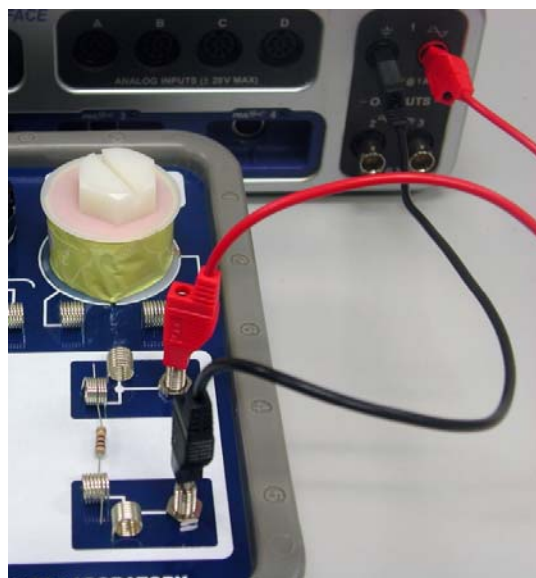

Figure 1: Ammeter Calibration
A resistor generally means a device that obeys Ohm's Law (many devices do not) and has a resistance R . Two (or more) resistors can be connected in series (as in Figure 1), or in parallel (as in Figure 2). Resistors could also be connected in a series/parallel circuit as shown in Figures 3 and 4. An equivalent resistor is a single resistor that could replace a more complex circuit and produce the same total current when the same total voltage is applied. For a series circuit, the resistances are additive:
Locate two $100\ \Omega$ ($\pm 5\%$) (brown-black-brown-gold) resistors, two $330\ \Omega$ (orange-orange-brown-gold) resistors, and two $560\ \Omega$ (green-blue-brown-gold) resistors. Label different positions on a piece of paper R_1 , R_2 , R_3 , R_4 , R_5 , R_6 . Put the $100\ \Omega$ resistors at R_3 and R_4 , the $330\ \Omega$ resistors at R_1 and R_6 places, and the $560\ \Omega$ resistors at R_2 and R_5 places. After we measure the resistances, it will be important to keep them straight. Construct the circuit shown in Figure 1. One of the $100\ \Omega$ resistors is connected between the two springs. The 850 Universal Interface measures the voltage between the red and black wires and the current flowing through the wires.
1. Make sure the 100Ω resistor with the actual resistance closest to 100Ω is back in the calibration circuit (see Figure 1).